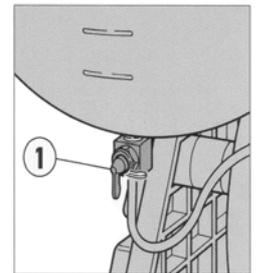

FIG. 4
- 1) Turn on the fuel cock (1 - Fig. 4), shifting the lever to open position "A".
- 1) Turn on the fuel cock (1 - Fig. 4), shifting the lever to vertical position.
Turn off the fuel cock (1 - Fig. 4), shifting the lever to horizontal position "C".
- 2) Turn off the fuel cock (1 - Fig. 4), shifting the lever to horizontal position "C".